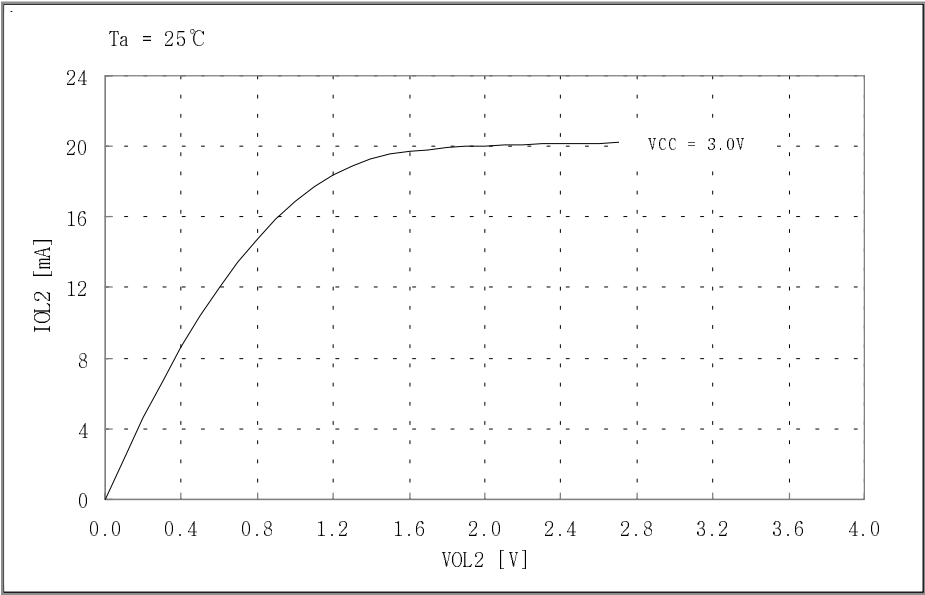

Fig 7-1. I_{OL2} vs. V_{OL2} Graph. (D, R Port)
*1 Refer to < Fig.7-1 I_{OL2} vs. V_{OL2} Graph >